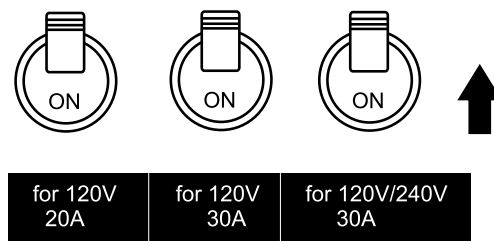

Figure 29. Auxiliary Circuit Breakers (ON)
2. Place auxiliary circuit breakers (Figure 29) in the **ON** position.